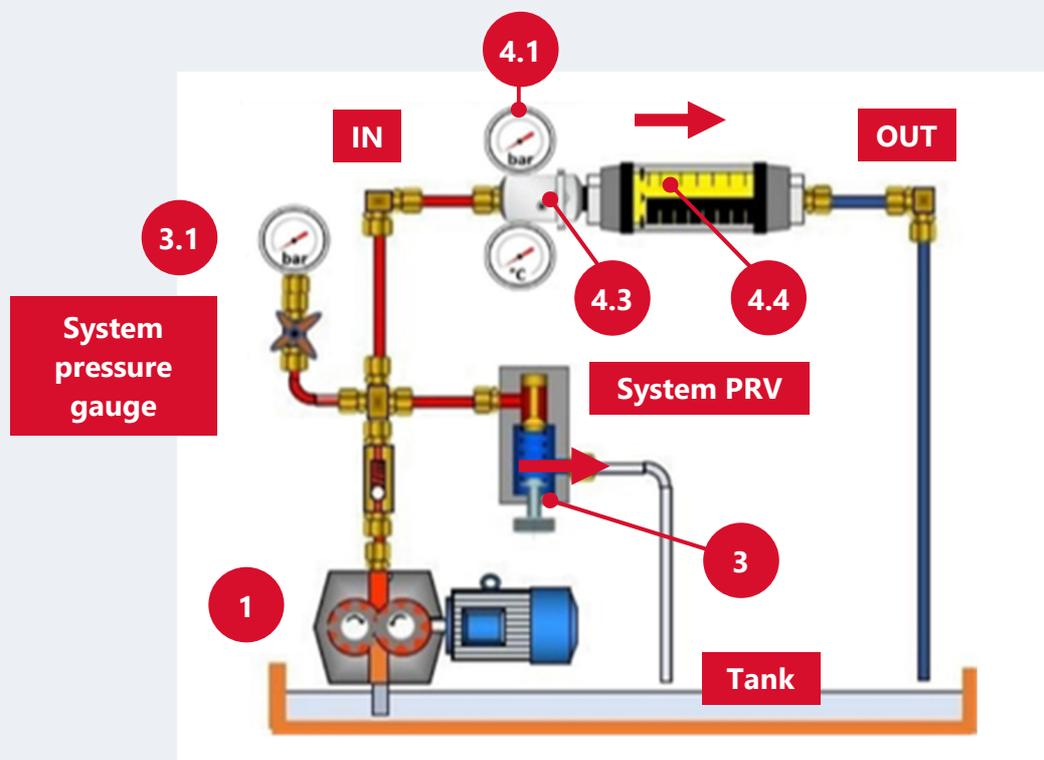

Figure 10: Schematic diagram of pressure relief valve test
Pressure relief valves (PRV) (3) (*see Figure 10*) often begin to open before the pump reaches its full power.